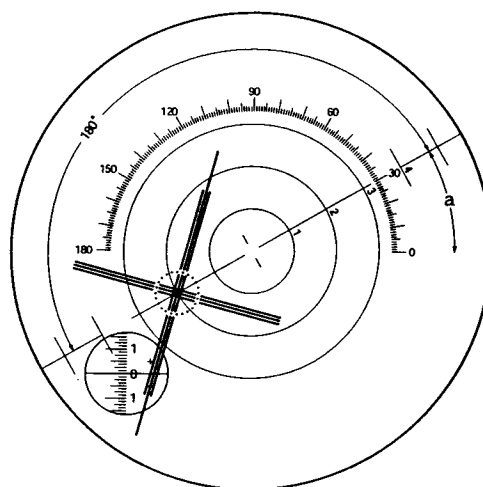

Fig. 8 MERIDIAN CROSS-LINE INTERSECTING TARGET CENTER
6. The position of the prism base can be read from the graticule at 1° interval. If the target will be displaced below the horizontal line, add 180° to the above reading. (Fig. 8)